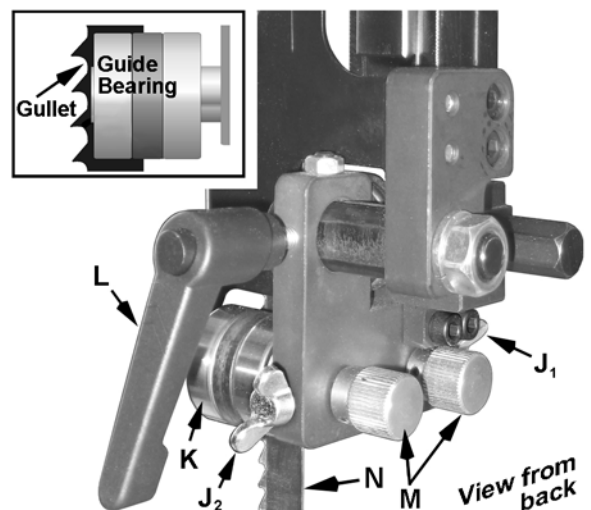

Figure 22
To adjust the guide bearings (refer to Figure 22):
2. Loosen the *locking handle* (L) and slide the assembly until the front of the *guide bearings* rest just behind the *gullet* of the blade teeth (see inset).
3. Loosen two *wing nuts* (J₁, J₂). Rotate the *adjustment handles* (M) until the *guide bearings* (K) rest lightly against the *blade* (N). *Do not force* the guide bearings against the side of the blade.
4. Tighten *wing nuts* (J₁, J₂ Fig. 22).